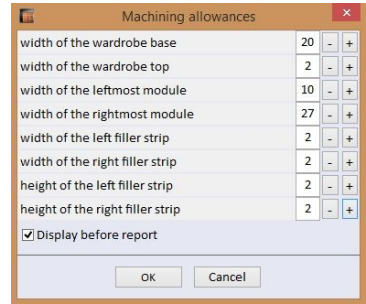

Fig. 42 - Setting the allowance
- **'Machining allowance'** - allowance is the layer of material removed during the processing. The size of the final allowance is determined by the difference of workpiece dimensions before and after processing. Wardrobe Module makes it possible to determine the amount of excess material for various wardrobe elements (Fig. 42). After setting these values they will be added to the price of the individual elements.